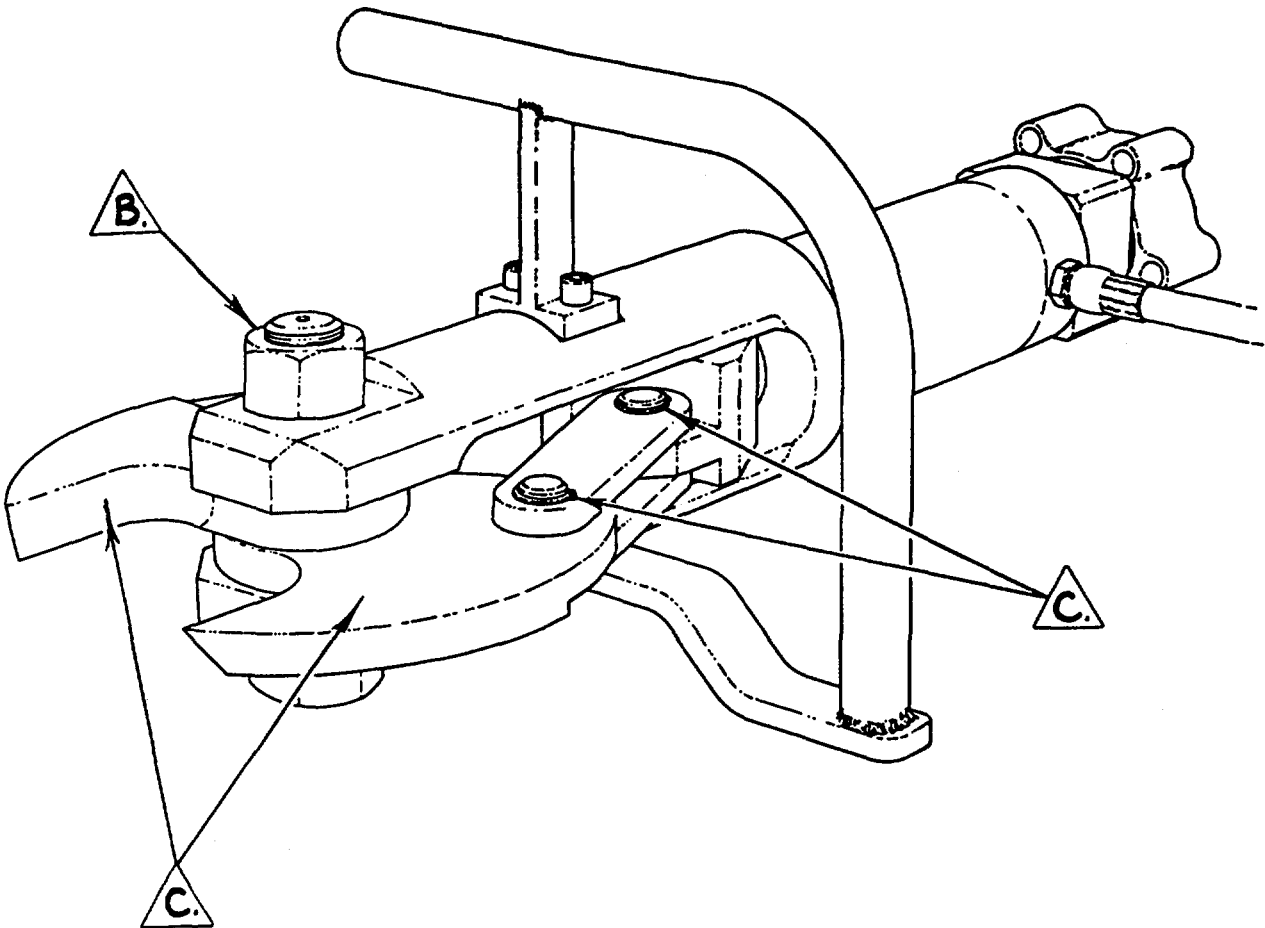

Figure 3-3.
- a. Once a month Apply Teflon multi-purpose lubricant, MIL-L-87177, to the cutter blades, linkage and pins (Ref. Figure 3-3).